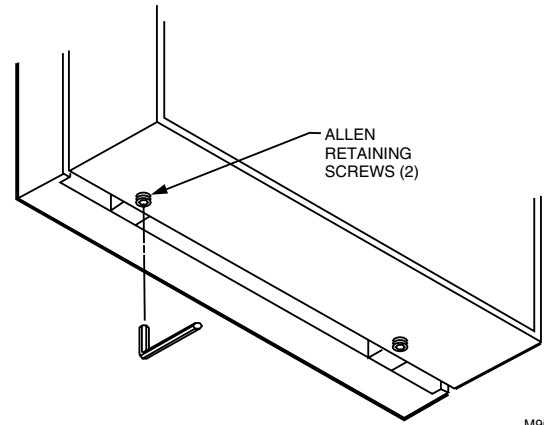

Fig. 10. Installation of locking cover assembly.
6. If the thermostat provides optional locking cover assembly, start the Allen locking screws in the cover with the wrench provided. See Fig. 10.